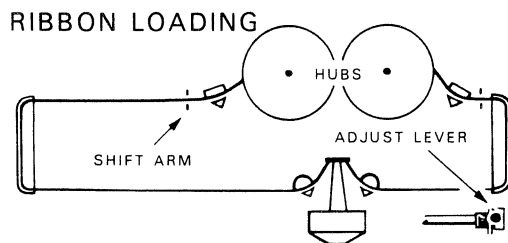

Figure 2-3. Ribbon Installation Instructions
2. Place a full ribbon spool on the hub with ribbon exiting from far side. Feed the ribbon along the path as shown in Figure 2-3 and install the empty spool, removing any ribbon slack.